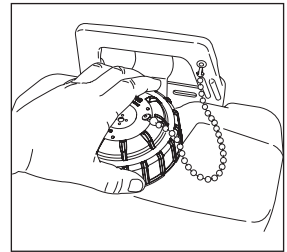

Figure 4.
1. Remove the cap from the tank. Turn the cap counterclockwise. **See Figure 4.**